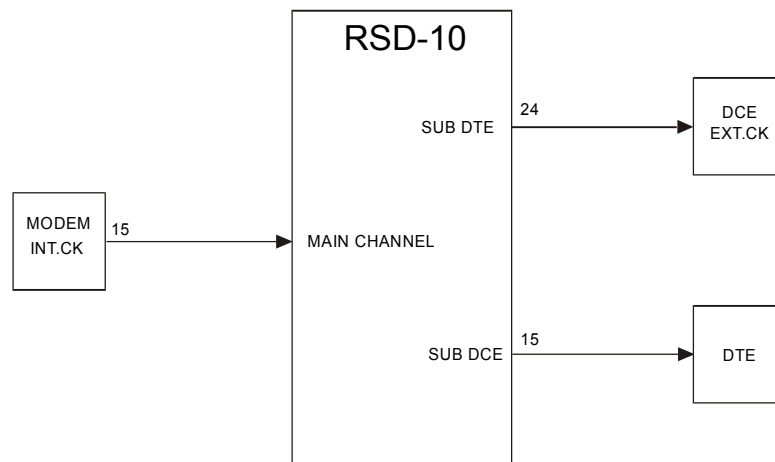

Figure 2-2. Synchronization on the Main Channel's DCE Clock
- Synchronizing on the main channel's clock (see *Figure 2-2*)